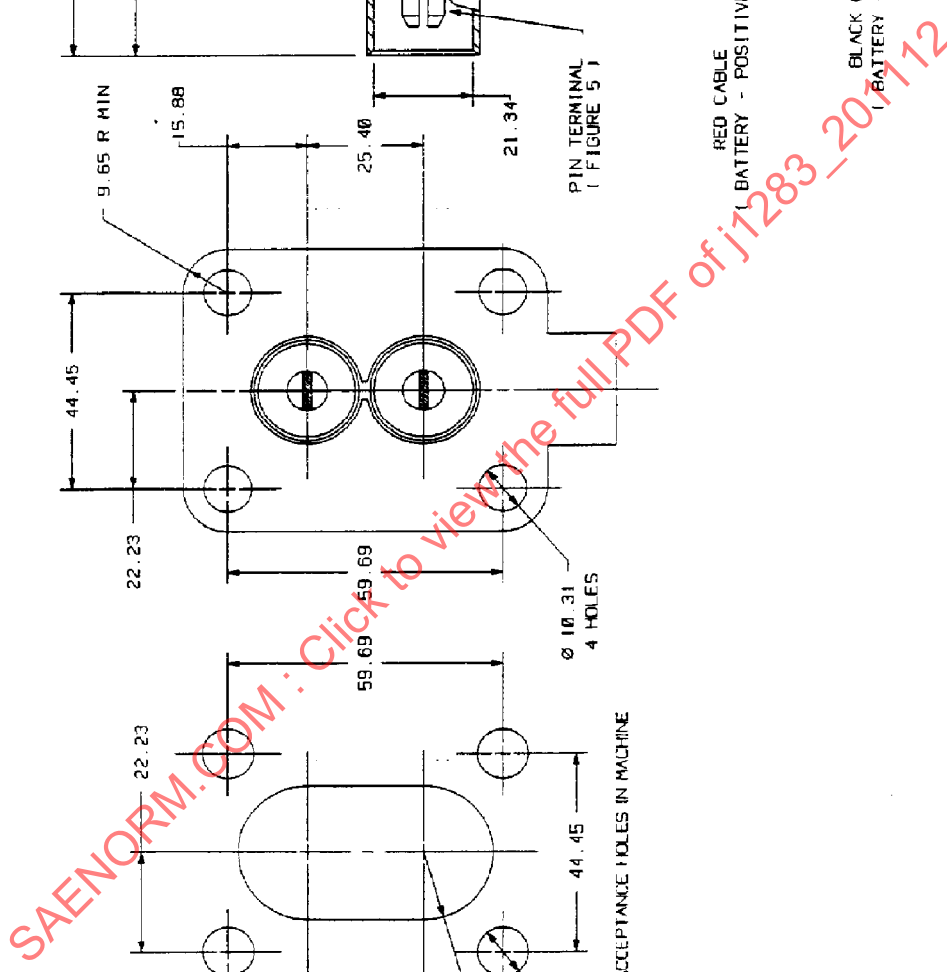

FIGURE 1—RECEPTACLE ASSEMBLY—90 DEGREES
- 3.1 The receptacle assembly shall contain two pin contacts as shown in Figures 1 and 2.
- 3.7 Color identification of cables and battery polarity shall conform to Figures 1 and 2.